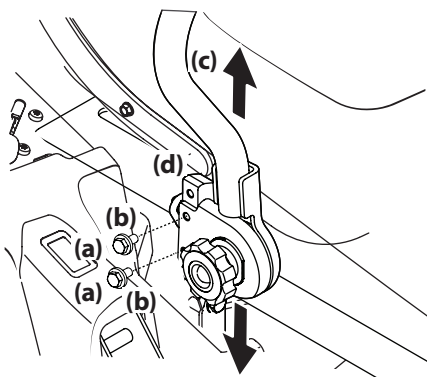

Figure 4-5
1. Remove the hex screws (a) and flat washers (b) securing the drive control lever (c) to the lower arm assembly (d). Refer to Figure 4-5.